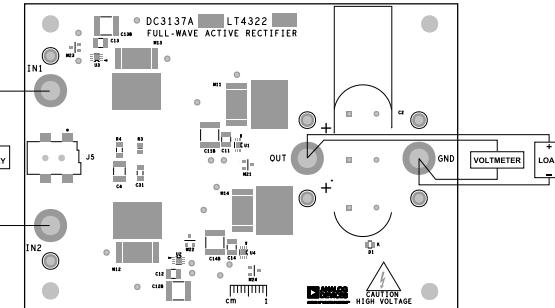

Figure 2. Measurement Equipment Setup
1. Connect an AC power supply between IN1 and IN2, as shown in Figure 2. Make sure that the output voltage of the supply is within the input voltage range of the DC3137A, as shown in Table 1. Verify that shorting resistors R11 to R14 have been removed before exceeding 42VAC_(RMS). Take care not to exceed 24V or 5A when using the barrel jack. Use the turrets (E1 to E6) and banana jacks (J1 to J4) in all valid current/voltage ranges.
2. Connect a load and voltmeter across OUT and GND, as shown in Figure 2. Turn down the load current to zero. Put the voltmeter in DC volt measurement mode.